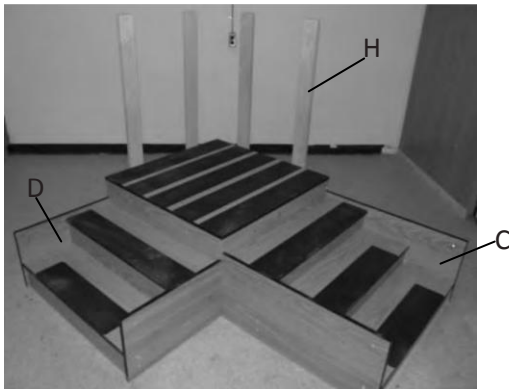

Figure 5: Base with Uprights ‘H’
5. Attach uprights ‘H’ on the open ends of the base ‘A’ using Hex head bolts ‘P’ and Allen key, with the dots facing inwards as shown in Figure 5. (It may require to remove (2) bolts from the upper mounting positions on the center platform to attach the uprights or position the step sections). **HAND TIGHTEN ONLY!**